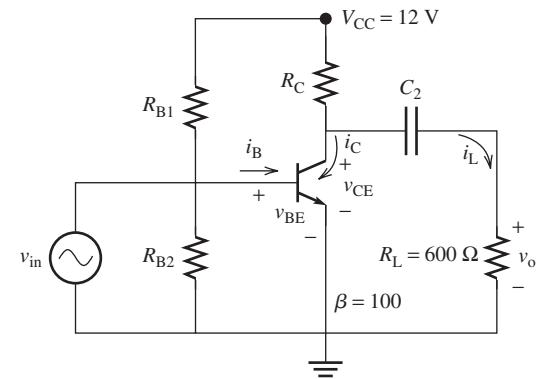

FIGURE P8.47 Circuit for Problem 8.47.
- 8.47** (H) Find the relationship between R_{B1} and R_{B2} , and the range of R_C to make the circuit given in Figure P8.47 operate in the: